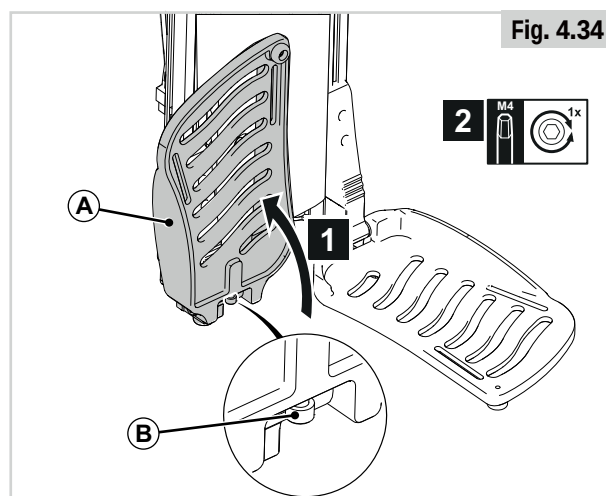

Fig. 4.34
- As with all moving parts be careful not to trap your fingers, (Fig.4.34).
Ankle angle (Fig 4.34)